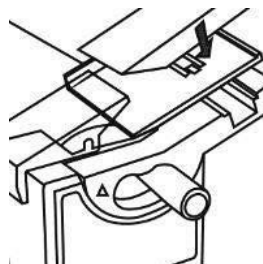

Fig. 10
2. Press the blade's bevel against the back lip of the plate (B) and allow the magnet to hold it in place (Fig. 10).
- a. When sharpening chisel blades, mount the small chisel guide (D) onto the plate.